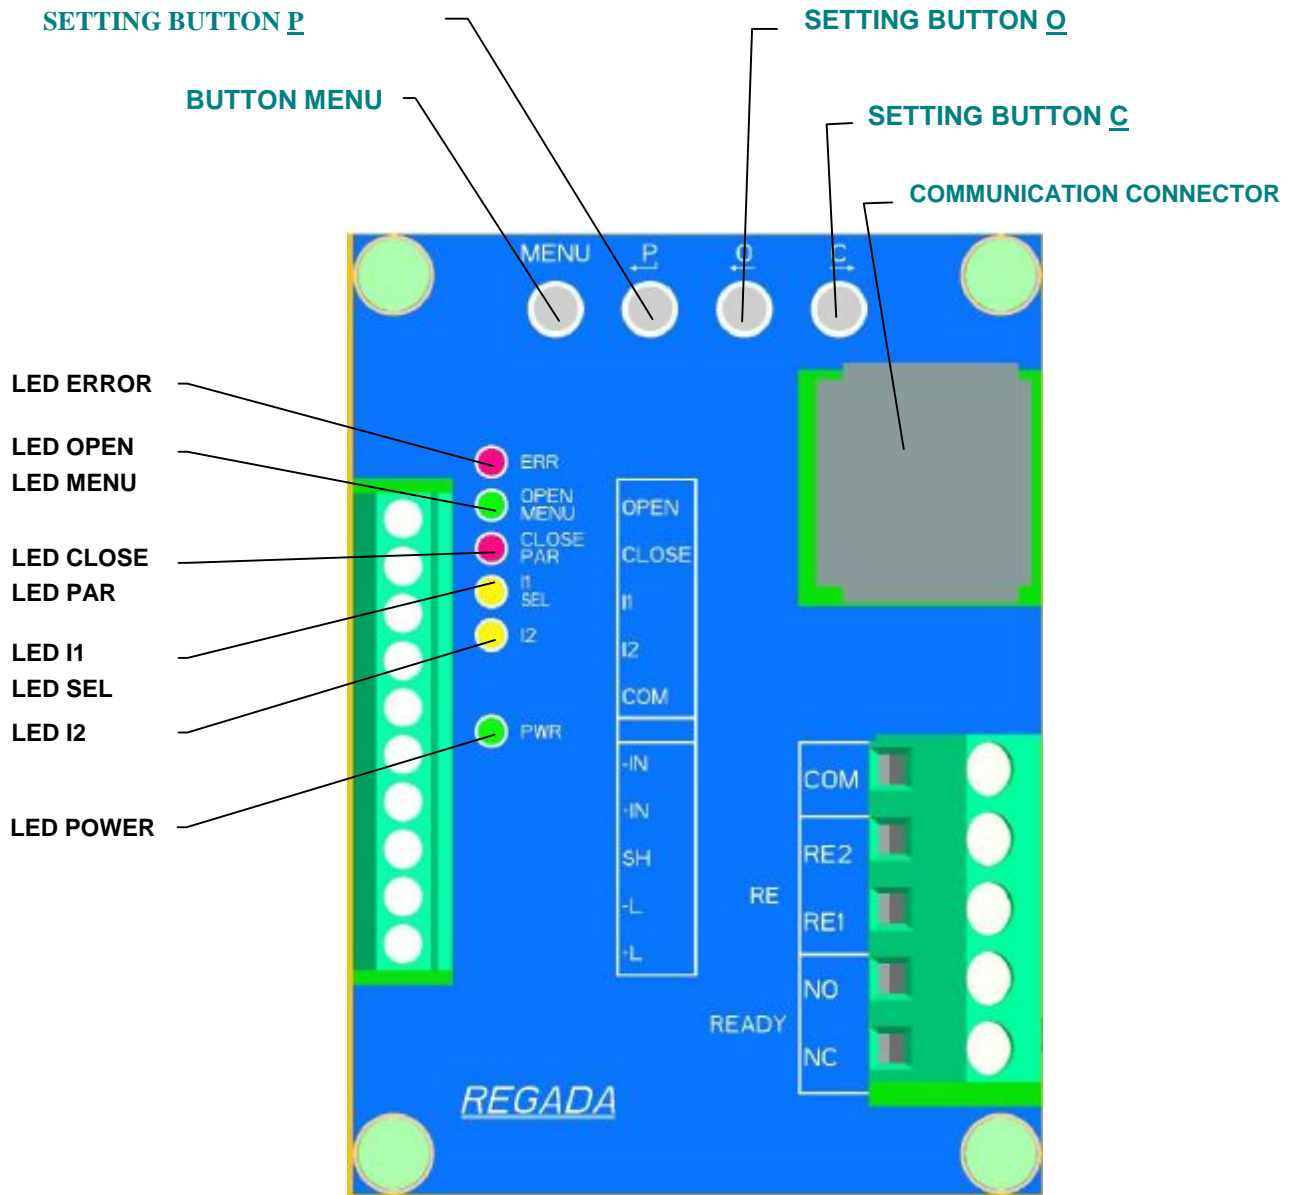

Fig. 6
After mechanical connection, electrical connection and checking of connection and function start setting and adjustment of the device. The adjustment can be performed at a mechanically and electrically connected EA. This part describes adjustment of EA to specified parameters in case that any unit of EA is reset. Laying of adjusters of the control board is shown on Fig.6.
- by operating the control unit buttons (see Fig. 6);
- six signal lamps according (LED diode) to **Fig. 6**.